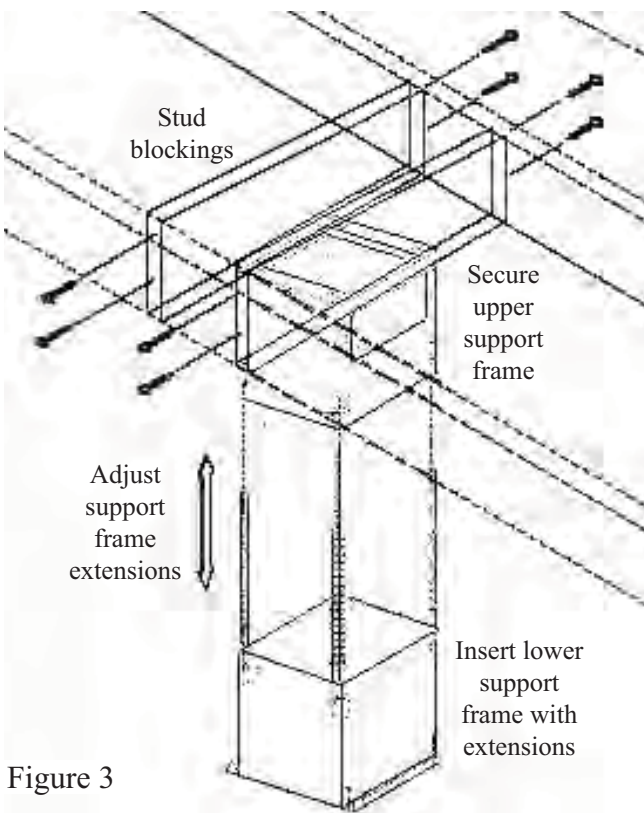

Figure 3
4. Fasten the support frame extension onto the lower support frame using four “B” bolts and “C” nuts as shown in Figure 3. Repeat this step for rest of the support frame extensions. **IMPORTANT:** Always use first and second holes on the support frame extensions.
6. Position the lower support frame with support frame extensions to the upper support frame, fasten each extension with four “B” bolts and “C” nuts as shown in Figure 3.
7. Slide the upper chimney cover over the completed support frame and fasten with two “F” bolts to the upper support frame. (See Figure 3 for illustrations).